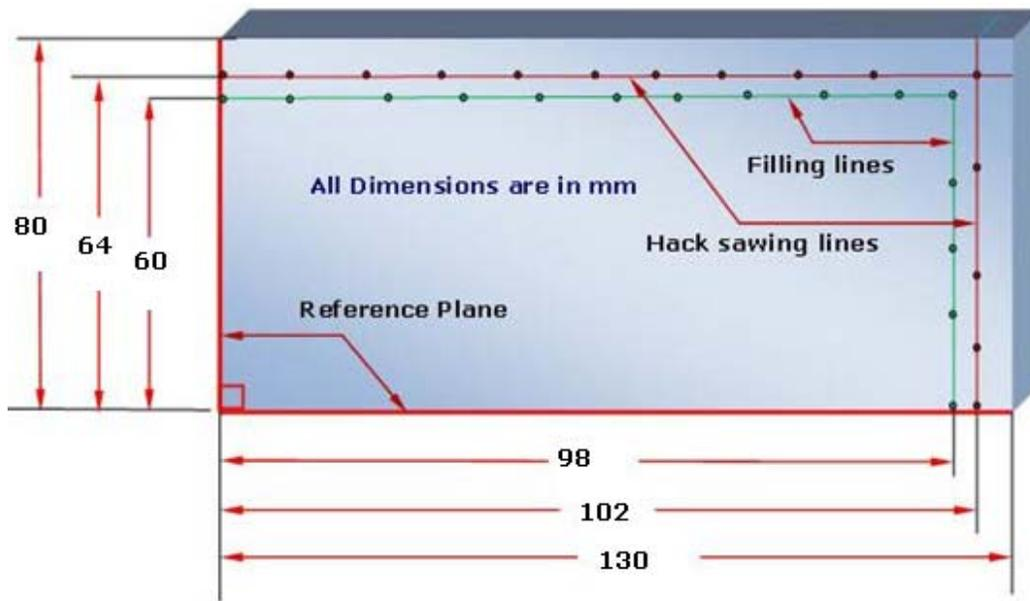

Fig 3.11: The filling and hack sawing lines
1. Marking out the hack sawing and filing lines. See Fig. 3.11.
This practical task will be achieved after cutting and filing to the part size as shown in Fig. 3.11